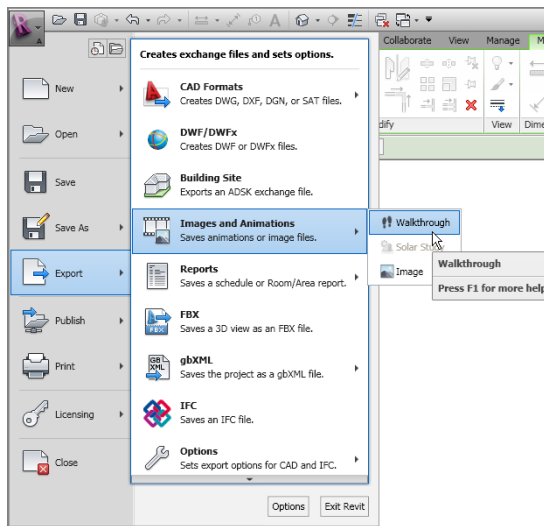

FIGURE 19.23: Choosing to export the walkthrough
Exporting an animation is a great, but slightly hidden, feature. The Export function isn't located on the Ribbon—you'll find it in the Application menu, as shown in Figure 19.23. By exporting a walkthrough, you're creating an animated vector image (AVI) that will translate the native Revit walkthrough. It's quick and almost completely painless.
2. Choose **Export > Images And Animations > Walkthrough** (see Figure 19.23).